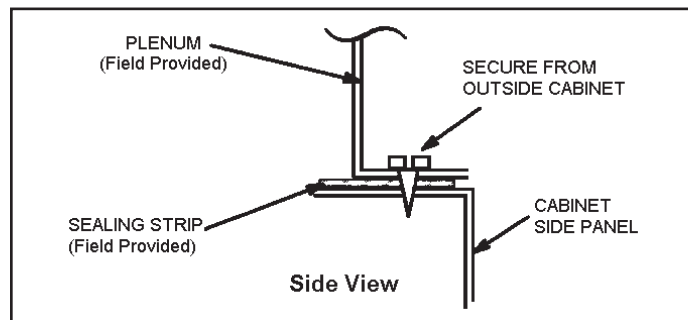
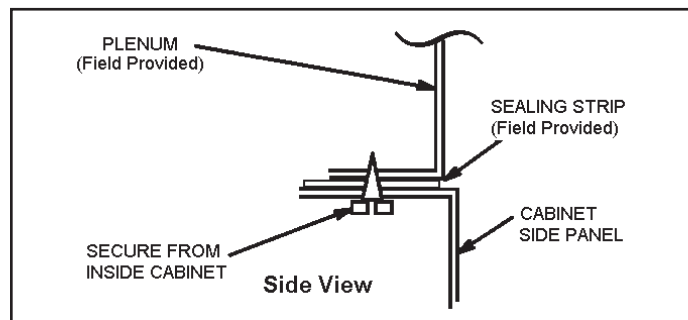

Figure 13.
Figure 14.
1. Bottom edge of plenum should be flanged with a hemmed edge (see Figure 13 or Figure 14).